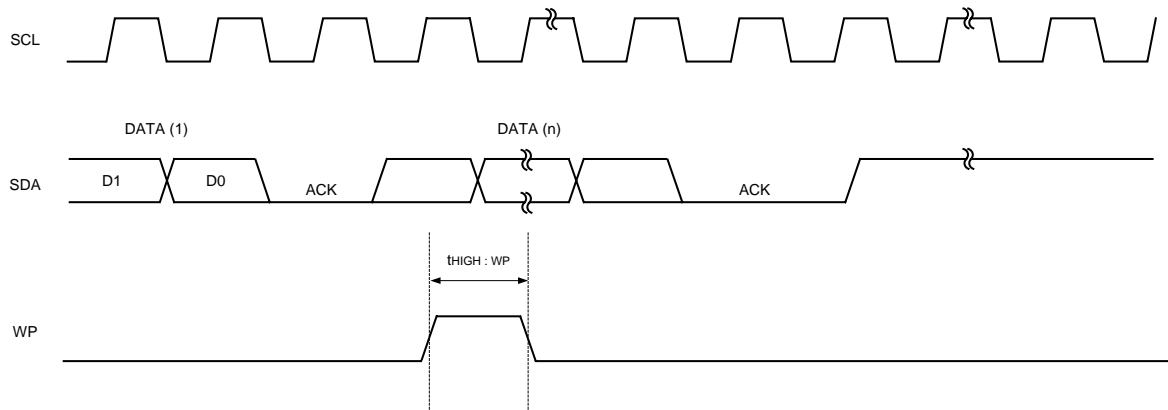

Fig.10(b) WP TIMING OF THE WRITE CANCEL OPERATION
- For the WRITE operation, WP must be "LOW" during the period of time from the rising edge of the clock which takes in D0 of first byte until the end of t_{WR} . (See Fig.10(a))